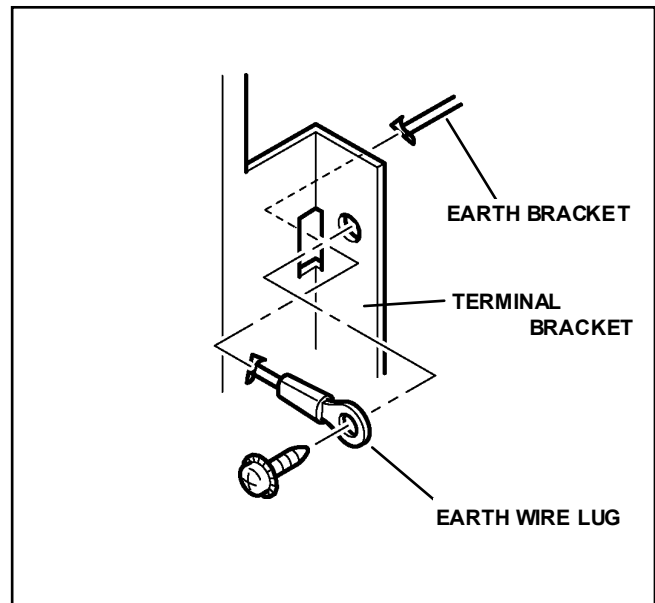

Fig.5
- Before turning on power, make sure that the earth wire properly connected to the terminal bracket, which is attached the main power switch and AC inlet. (Fig.5)